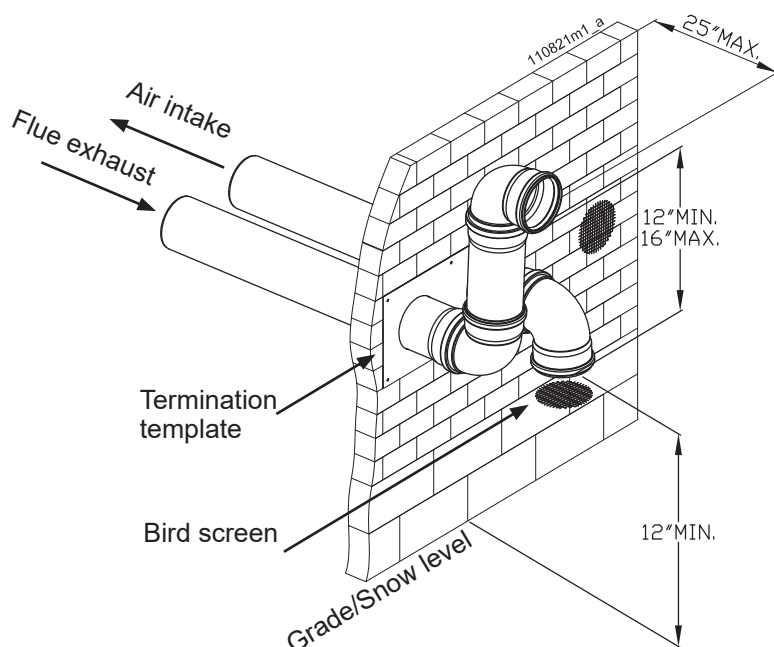

Figure 11-15 - Two pipes sidewall termination of air and vent
- 3.- The vent piping must terminate in an elbow pointed outward as shown in Figures 11-15 or 11-16 or in a roof as shown in Figure 11-22;
Do not exceed the maximum lengths of the outside vent piping shown in Figures 11-15, 11-16 or 11-22. Excessive length exposed to the outside could cause freezing of condensate in the vent pipe, resulting in potential appliance shutdown.
- 3.- The air piping must terminate in a down-turned elbow as shown in Figures 11-15 and 11-16. This arrangement avoids recirculation of flue products into the combustion air stream;
- 4.- The vent piping must terminate in an elbow pointed outward or away from the air inlet, as shown in Figures 11-15 and 11-16;
! WARNING!!! Do not exceed the maximum lengths of the outside vent piping shown in Figures 11-15 and 11-16. Excessive length exposed to the outside could cause freezing of condensate in the vent pipe, resulting in potential appliance shutdown.
- 5.- Maintain clearances as shown in Figures 11-15 and 11-16. Also maintain the following:
- 1.- The air termination coupling must be oriented at least 12 inches above grade or snow line as shown in Figures 11-15 and 11-16;
- 2.- Maintain the required dimensions of the finished termination piping as shown in Figures 11-15 and 11-16;
- 3.- Do not extend exposed vent pipe outside of the building more than what is shown in Figures 11-15 and 11-16. Condensate could freeze and block vent pipe.